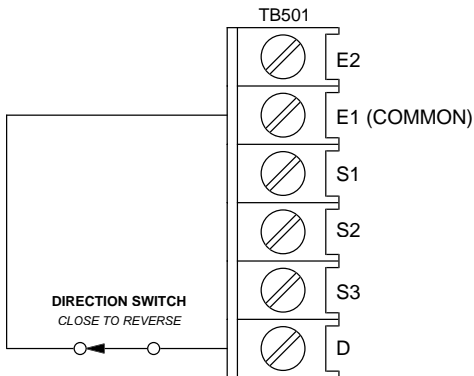

Figure 21. Signal and Optional Switch Connections
Connect a single-pole, single-throw DIRECTION switch between the (D) and COMMON (E1) terminals as shown in Figure 21 below. Opening the switch will cause the motor to rotate in the forward direction; closing the switch will reverse motor rotation.